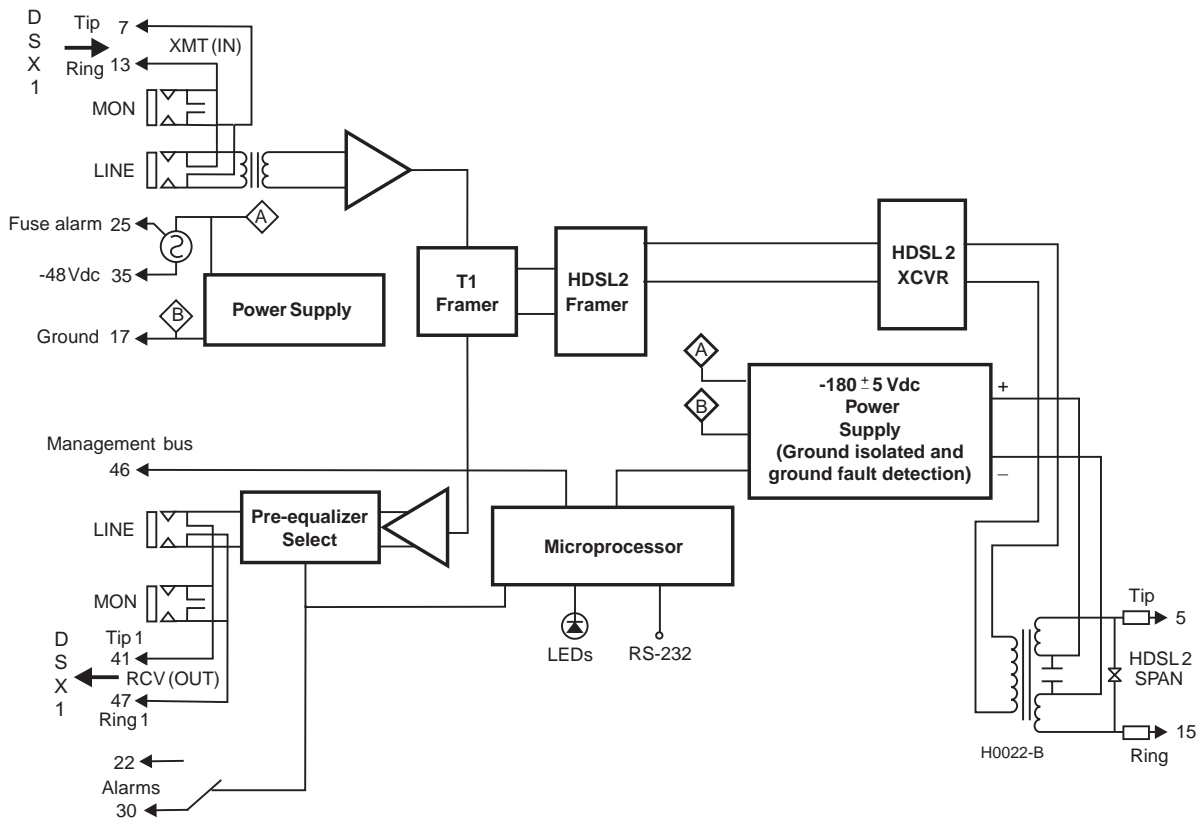

Figure 32. H2TU-C Block Diagram
Figure 32 shows a block diagram of the H2TU-C. The H2TU-C receives a 1.544 Mbps DSX-1 data stream from the DSX-1 digital cross-connect interface. The H2TU-C contains a DS1 frame synchronizer controlled by an 8-bit microprocessor that determines the type of framing on the DS1 stream. The H2TU-C synchronizes to the type of framing detected. The H2TU-C recognizes SuperFrame (SF), including D4 or Extended SuperFrame (ESF).